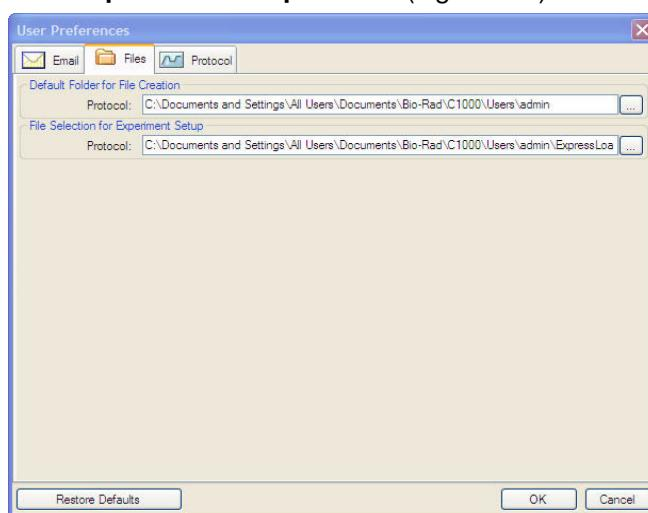

Figure 104. The Files Preferences tab in the User Preferences window.
- **File Selection for Experiment Setup.** Select the default protocol file that appears when you open the **Experiment Setup** window (Figure 104).